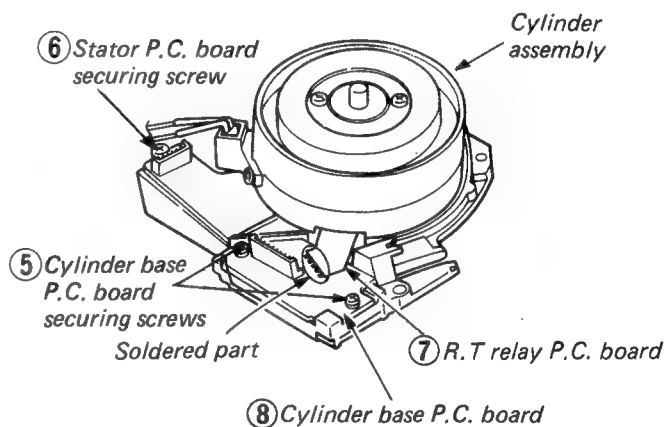

Fig. 1-3-16 Relay P.C. board and cylinder base P.C. board
- 2) Remove two cylinder base P.C. board securing screws ⑤ and stator P.C. board securing screw ⑥. (Fig. 1-3-16)